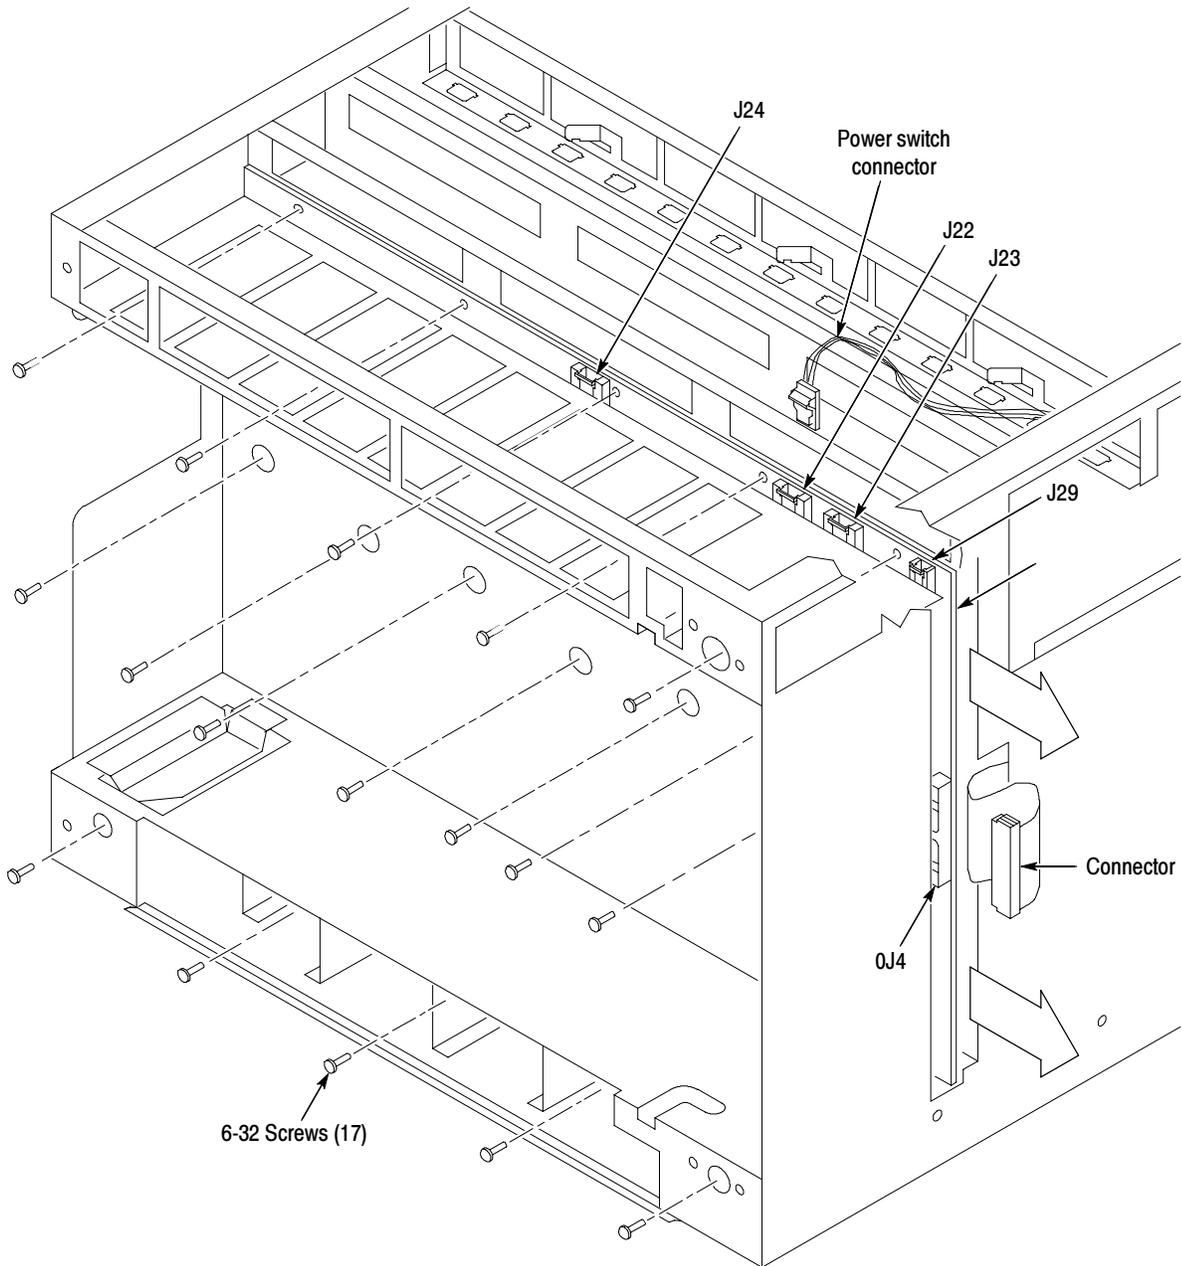

Figure 20: Removing the backplane
5. Refer to Figure 20 and disconnect the ribbon cable on the right side of the backplane.
7. From the rear of the mainframe, remove the five 6-32 screws on the top of the backplane, remove the seven 6-32 screws from the center, and then remove the five 6-32 screws from the bottom (refer to Figure 20 if necessary).